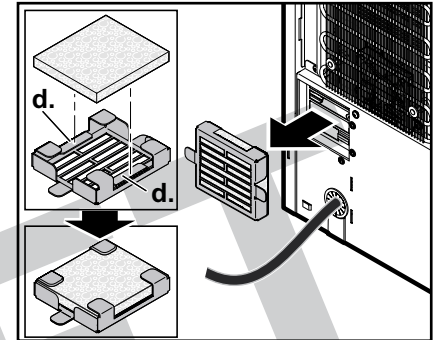

Fig. 25
1. Pull the air filter and the support out of its position, and remove the air filter (fig. 25).
Insert the air filter in plane position on brackets (d.), (fig. 25).